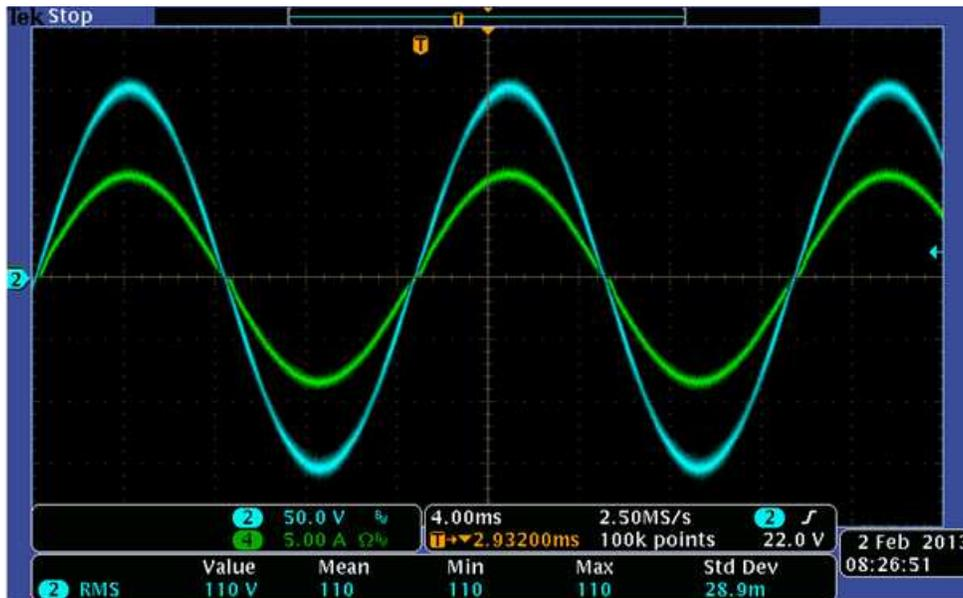
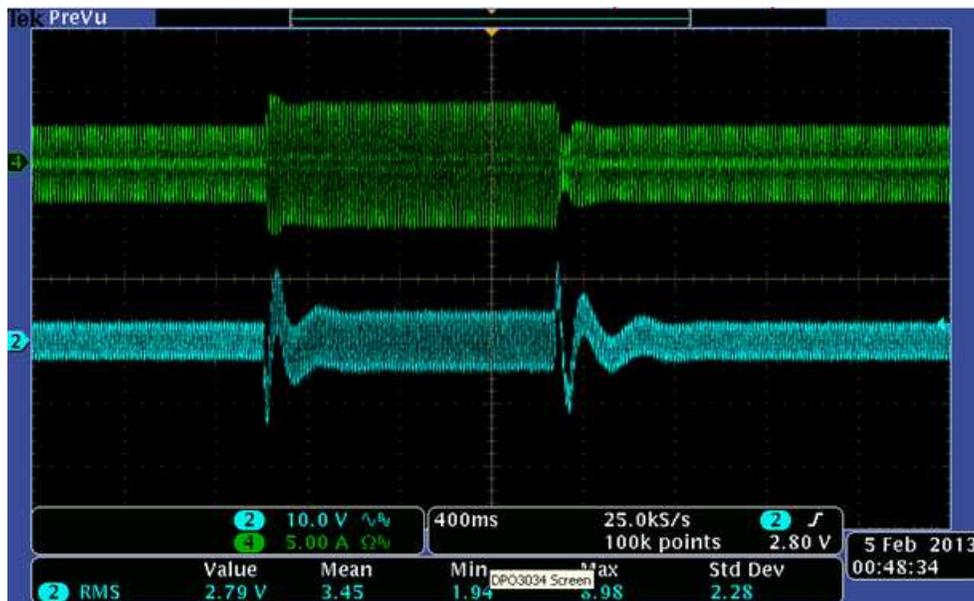

Figure 1. PFC Input Voltage and Current
Figure 2. Input Current and PFC DC Bus Response for Step Load
11. Verify the effect on the dc bus voltage and on the input power factor when the input voltage (100 Vrms to approximately 260 Vrms) or the load power (0 W to approximately 550W @110Vin, 0W - to approximately 700W @ 220 Vin,) is varied. The dc bus should be regulated at 390 V under all conditions. Depending on the load (10% and higher) and line conditions, the power factor for the input current will vary from 0.95 to 0.999. Figure 1 shows the PFC input voltage and current when the input voltage is about 110 V and the PFC load is about 550W load. Figure 2 shows the input current and PFC DC bus response for step load between 240W to approximately 400W when the input voltage is set to 120 Vrms.